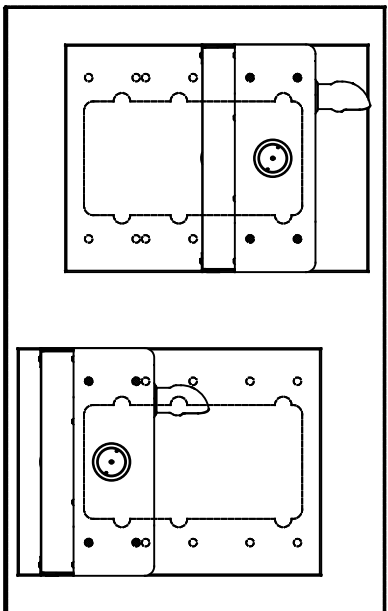

FIGURE 1.
CHILD WHEELCHAIR HEIGHT: SEE SHT 3 FIG 1
- 8 FIGURES 1 AND 2 ARE REVERSIBLE. CAN BE RIGHT OR LEFT SIDE HIGH.
- 9 USE SHADED HOLES TO MOUNT AT INDICATED POSITIONS BASED ON COMBINATION SELECTED (FIGS. 1 THRU 3).